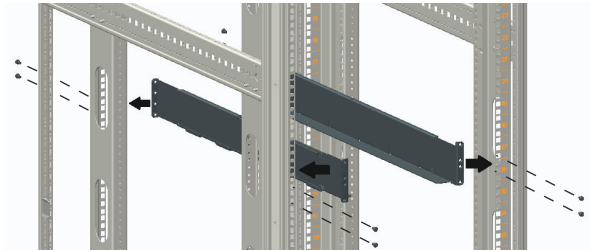

Figure 8. Install Rail Kit
1. Install the 4-post rail kit included with the BPM (see Figure 8).